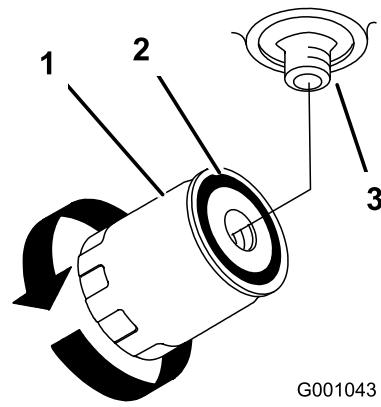

Figure 51
- Locate filter under engine base and place drain pan under filter (Figure 51).
- Remove the old filter and wipe the filter adapter gasket surface clean (Figure 51).
- When the hydraulic filter is full, turn the oil filter clockwise until the rubber gasket contacts the filter adapter, then tighten the filter an additional 1/2 turn (Figure 51).